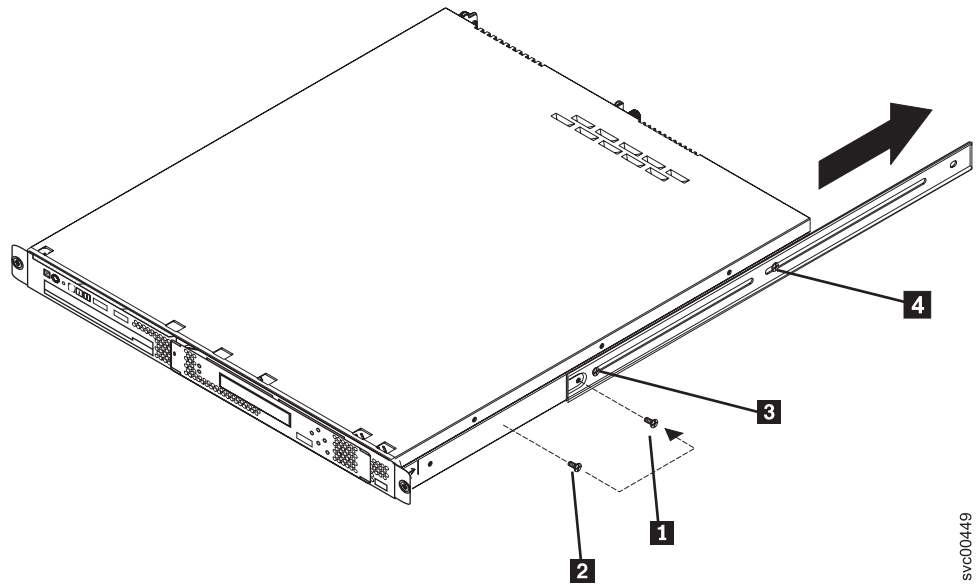

Figure 23. Securing the SAN Volume Controller 2145-8A4 node to the slide rail
7. Remove the larger screw **1** shown in Figure 23 on page 29. Remove and save screw **2**. Loosen screws **3** and **4**. Slide the rail toward the back of the node and insert the screw that you saved into the position where the large screw **1** had been located. Tighten the three screws **2**, **3**, and **4**.